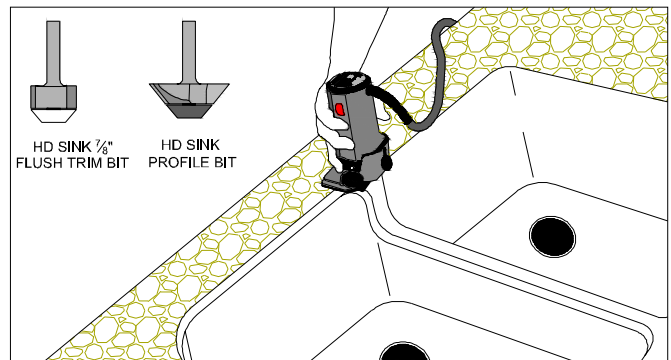

Figure 12C
- Use a laminate trim router with the bottom bearing flush trim bit and flush trim the overhanging laminate. (FIG. 12C)
- Use a laminate trim router with the sink profile bit, profile the edge of the laminate with the angle of the sink. (FIG. 12C)